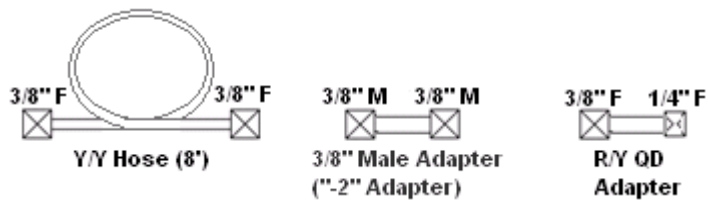

Figure 10-8.- CWC-I fill assembly.
1. De-mate all connections shown in fig 10-8